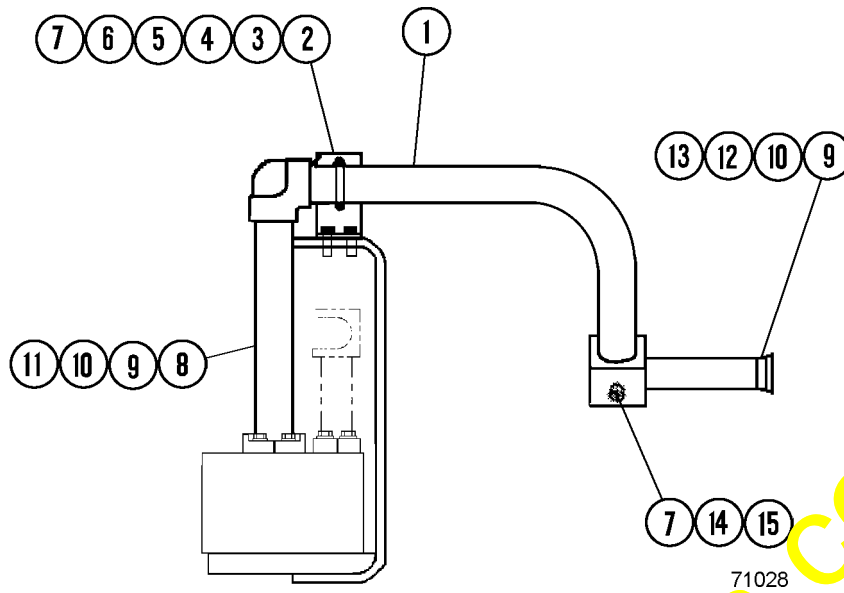

FIGURE 1. ORIGINAL PIPING
2. Remove tube (1, Figure 1) and all components (2-15, Figure 1) referenced in Figure 1.